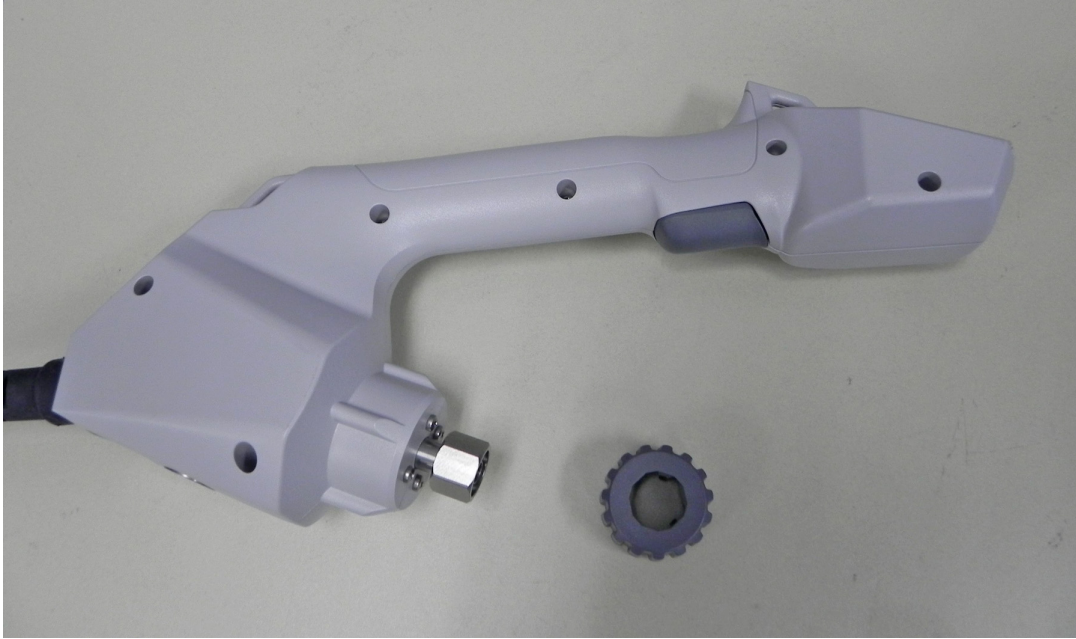
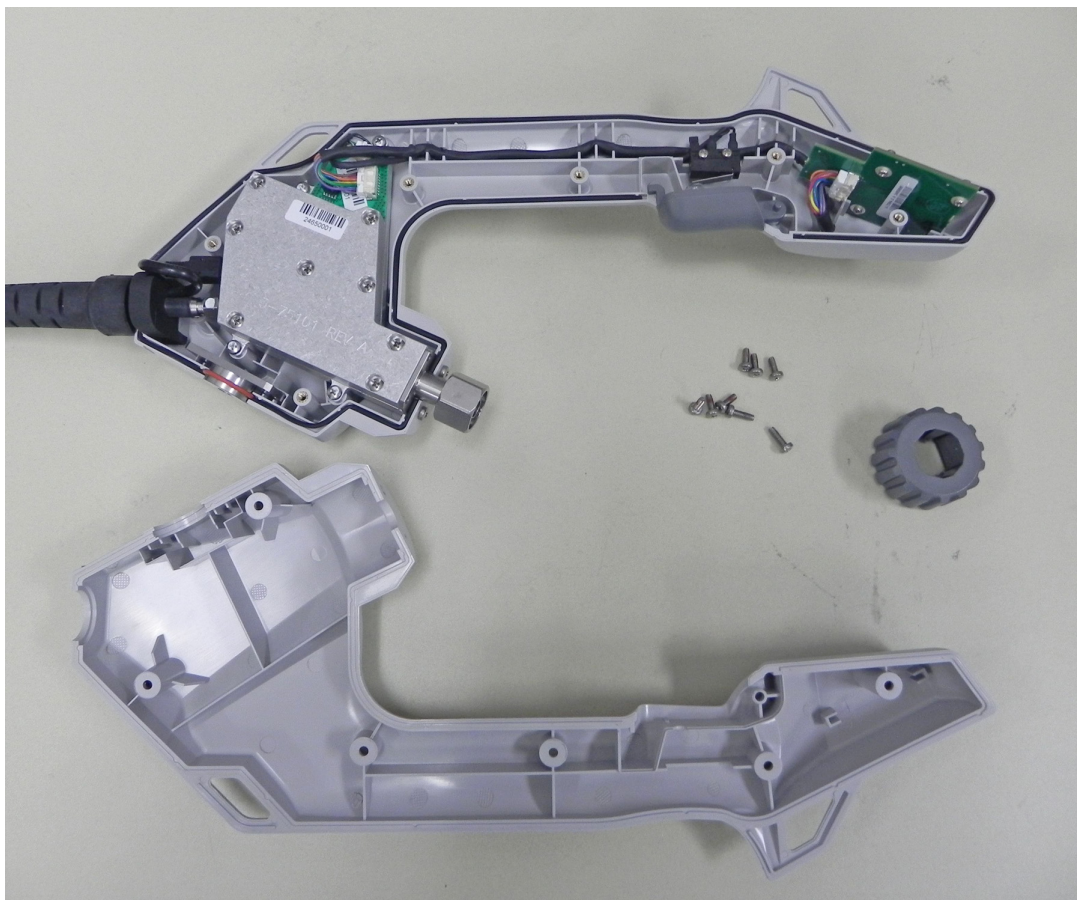

Figure 3-1. Case with N Connector knob removed
Figure 3-3. The Two Halves of the InterferenceHunter
2. Place the MA2700A on a stable work surface (with the screw holes facing up) that will not scratch the case. Remove the plastic N connector torque knob by pulling it off (Figure 3-1).
4. After removing the six screws shown in Figure 3-1 and the two screws by the N connector shown in Figure 3-2, carefully lift up the top half of the case and begin to separate the two halves. Refer to Figure 3-3.